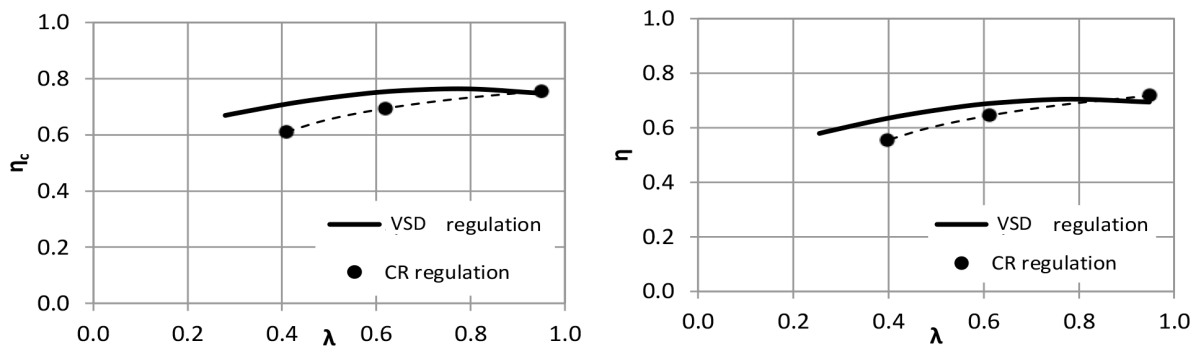

Figure 4. Energetic efficiency as a function of compressor part load index for compressor only (left) and complete system (right).
The part load performance, described by the dependency between part load index and energetic efficiency, can be derived quite easily from the compressor performance data. By combining Equation (8) with interpolation of motor and drive performance data, deriving the part load efficiency of the motor and drive as a function of the part load index is also possible. Figure 4 shows an example of the relation between the part load index (λ) and the energetic efficiency (η).